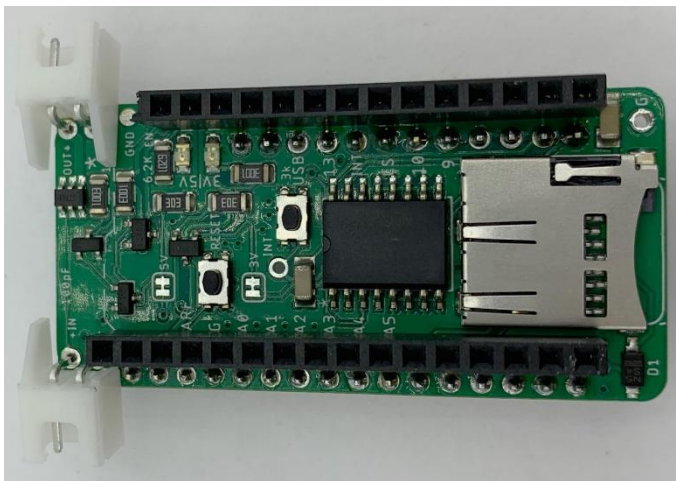

Figure 14: Top of assembled Hypnos PCB with headers and 2 pin right angle JST sockets.
3. Clip the right fin off of one of the 2 pin right angle JST sockets (Figure 14). Insert from the top into the top of the board in the two through holes labeled “In” so that the entry is facing out from the board. Flip over the board and solder into place.
4. Insert the other 2 pin right angle JST socket from the top into the top of the board in the two through holes labeled “Out” so that the entry is facing out from the board (Figure 14). Flip over the board and solder into place.